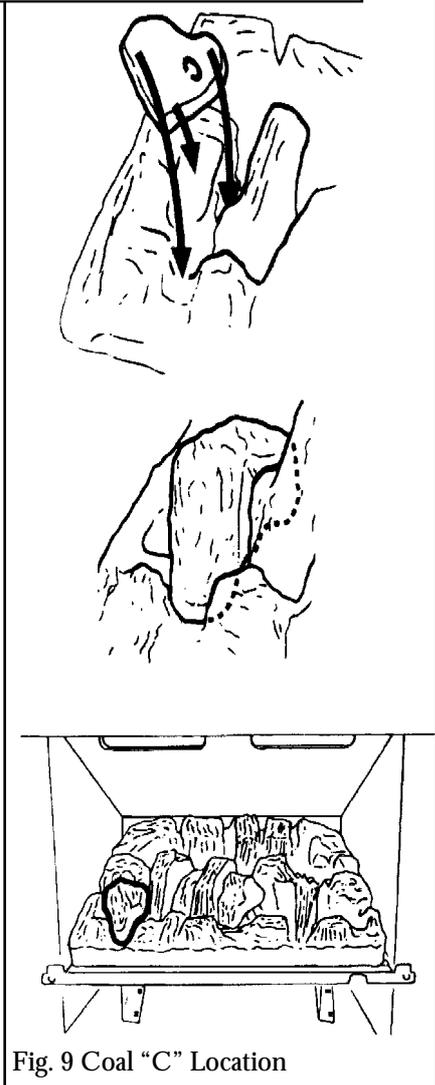

Fig. 9 Coal "C" Location
4.1.3 Position the front left coal (embossed "C" on its underside) in the well in the coal bed marked "C" - see figure 9. The narrow "nose" should locate in the "U" shaped cut-out at the front left of the coal bed. The bottom of the coal should rest on the ridges at each side of the location well marked "C" in the coal bed. The 'ear' at the rear right of coal "C" should rest in the depression in the ridge at the right side of the well.